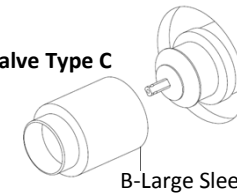

FIGURE 4
2. Install new dome nut (C) with adjusting ring (D) (figure 4). (Valve types A & B only). Hand tighten only.